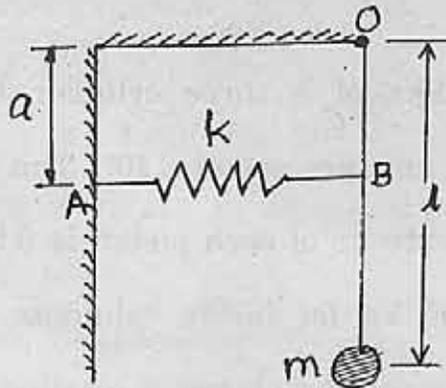

Fig. 3
- (c) Determine the natural frequency of vibration for the system shown in Fig. 3 below. [8]